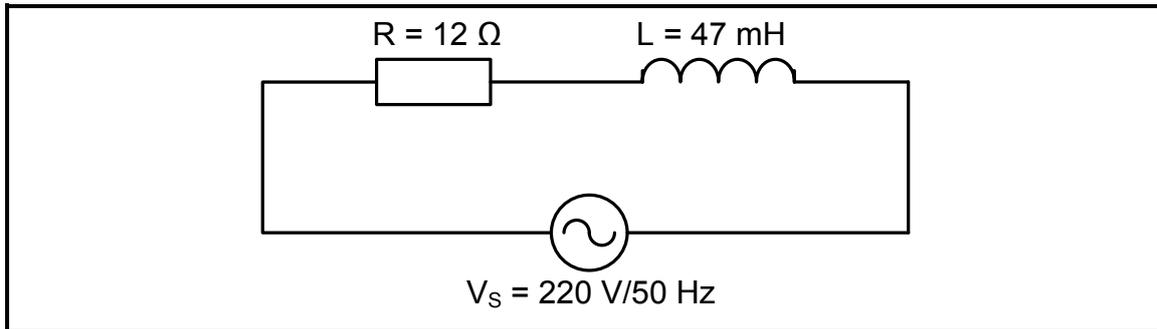

FIGURE 6.2
6.3 Refer to FIGURE 6.2 and below and answer the questions that follow.